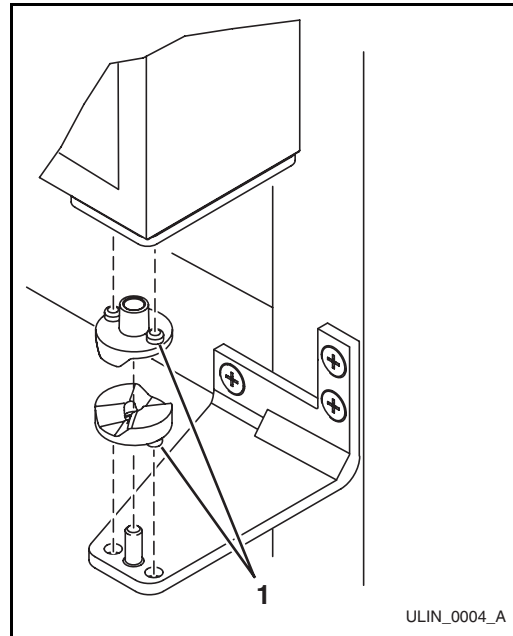

Figure 15
5. After adjustment is complete, remove the door closers from the bottom hinge, clean thoroughly and apply petroleum jelly to the mating surfaces of the closers. Be sure that bosses on closers (**Figure 15, 1**) align with holes in the door and bottom cabinet hinge plates. Mount door and install top hinge pivot pin.